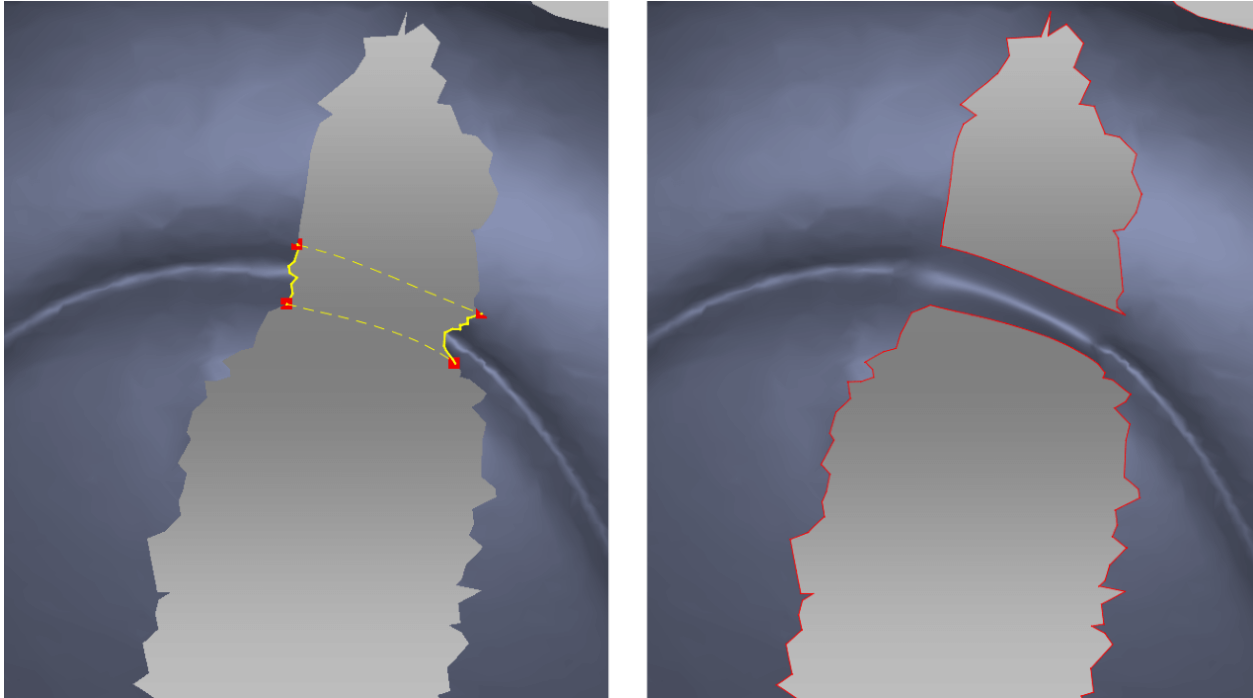

Figure 147: Specifying fragments. Correct fragments can resolve original geometry.
2. Specify two opposite fragments¹ between which a bridge will go (Figure 147). There are two ways to do this:
Preserve the original geometry (Figure 147)	Clear the Smooth edges first checkbox